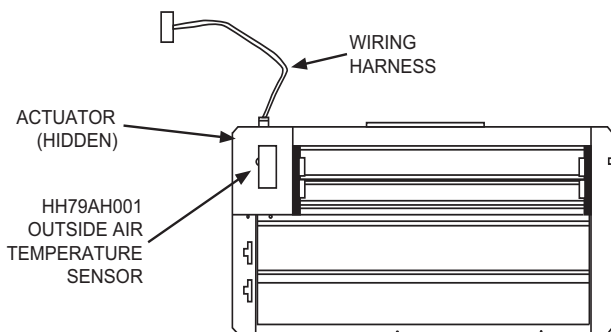

Fig. 1 — EconoMiSer® X Component Locations (Small Economizer Shown)
See Fig. 1 for component locations on the EconoMiSer X system.
11. If EconoMi\$er X system will be operating under enthalpy control, replace the factory installed HH79AH001 outdoor dry bulb temperature sensor with accessory enthalpy sensor HH57AC081 (see Fig. 1).